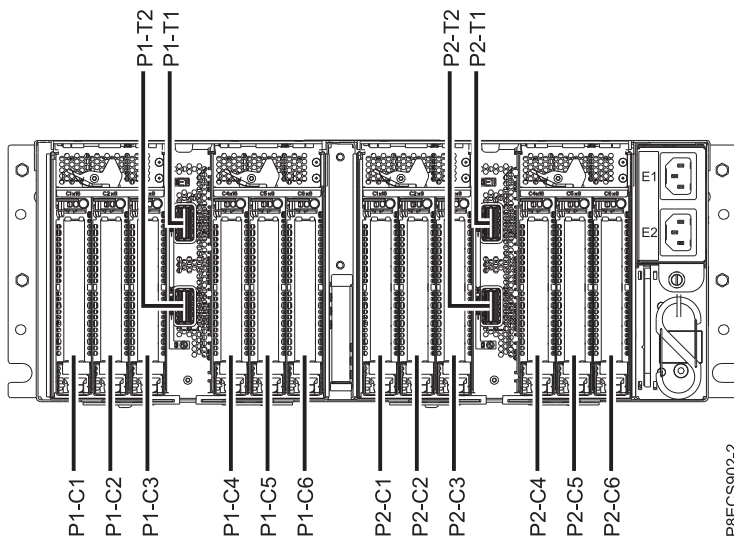

Figure 46. PCIe adapter slot locations in the EMX0 PCIe3 expansion drawer
4. Determine the slot in which you want to install a PCIe adapter. The PCIe adapter slots are located in the I/O module bay that is installed in rear of the EMX0 PCIe3 expansion drawer. Figure 46 shows the PCIe adapter location codes.